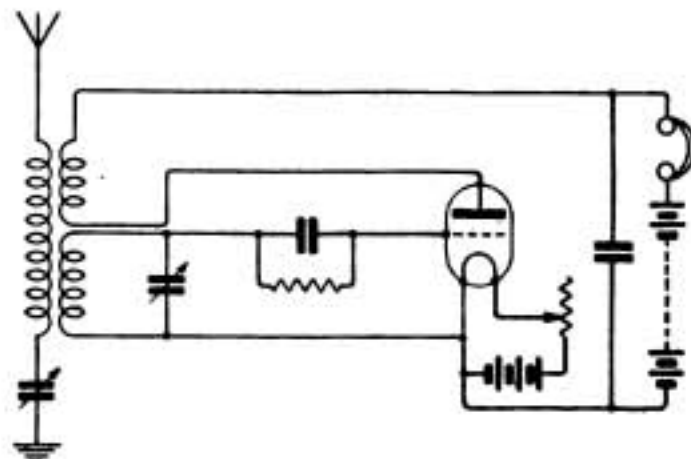

Fig. 7.
(1) The apparatus suggested would be sufficient, but a grid condenser and leak would be an advantage. Connect up as in diagram Fig. 7. (2) No, but a licence must be obtained before the apparatus is used.
"READER" (Royston) refers to Fig. 7, page 276, May 27th issue, and asks (1) The capacity of the reaction condenser. (2) If honeycomb coils are suitable for coupling the valves. (3) If he is infringing any patent by selling a receiver using this circuit.
(1) Up to about 0.0001 mfd. (2) Not very suitable, but something might be done with them in special circumstances. (3) We believe that capacity reaction as well as magnetic is covered by existing patents.